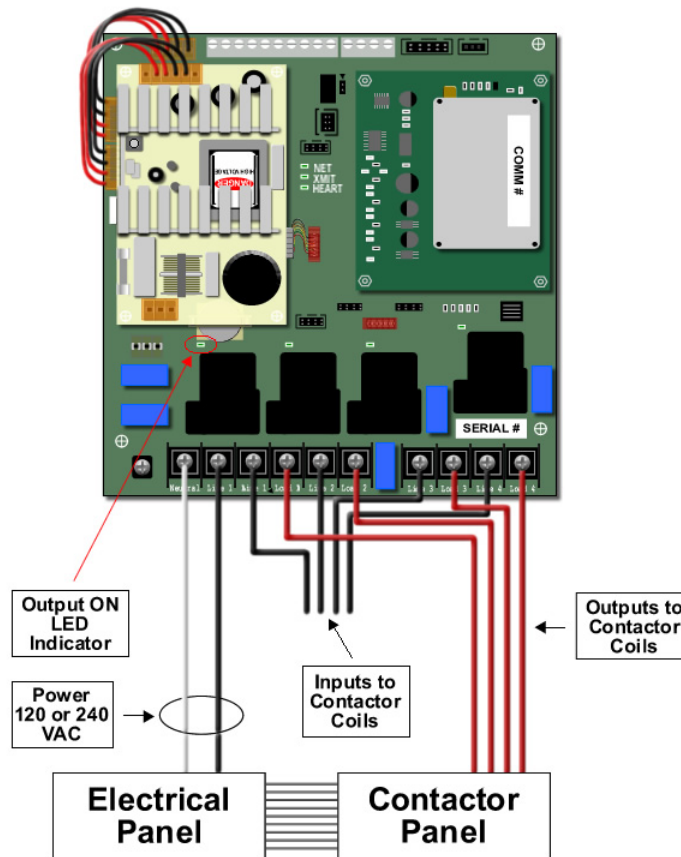

Fig. 2
4. **Complete the following steps for lighting control (refer to Fig. 2):**
- Connect circuits of controlled loads (i.e. exterior lighting) to the “Load” terminations on the P1844 termination strip via existing contactors as illustrated in the wiring diagram shown in Fig. 2.